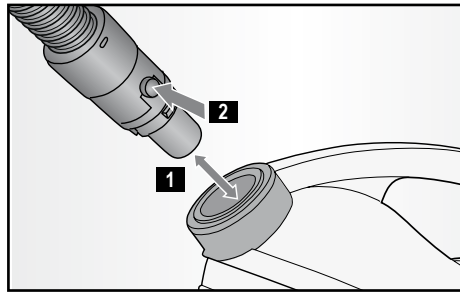

Fig. 2
- Push the adaptor on the end of the hose into the cleaner until it clicks into place (1 - Fig. 2).
- To remove it, first unplug the cleaner and then press the buttons on each side (2 - Fig. 2) and remove the coupling.